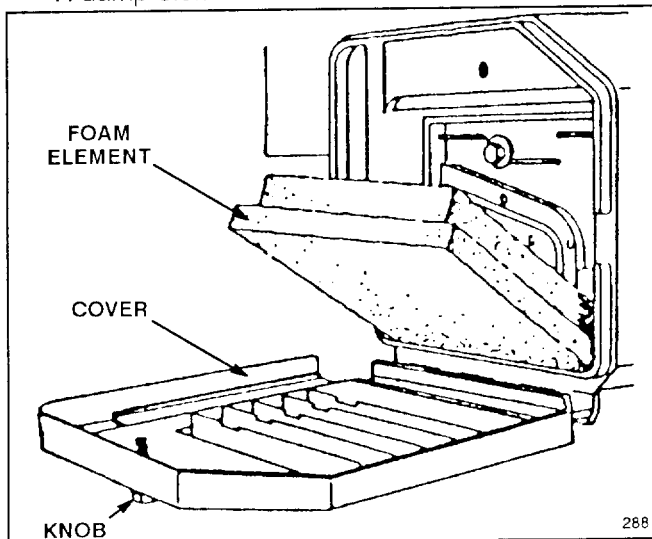

Figure 10
2. Rotate knob securing air cleaner cover to engine until cover can be removed. Clean cover thoroughly (Fig. 10).
3. If outside of foam element is dirty, remove it from air cleaner body (Fig. 10). Clean thoroughly.
1. Stop engine and pull wire off spark plug (Fig. 10). Remove key from switch on electric start model.